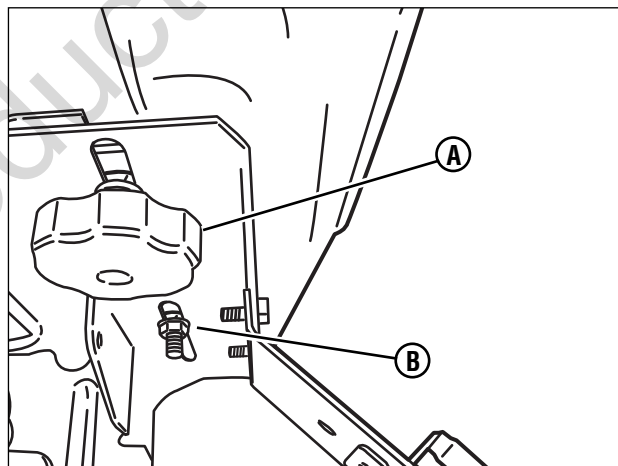

Figure 3: Operator seat adjustment
1. With the engine stopped, loosen the two adjusting knobs (**A**, **Figure 3**) and move the seat to the desired position. After adjustment, tighten the knobs securely.
4. Adjust the seat (**A**, **Figure 3**) as needed to the most comfortable position. Refer to the Section entitled "OPERATOR'S SEAT ADJUSTMENT".